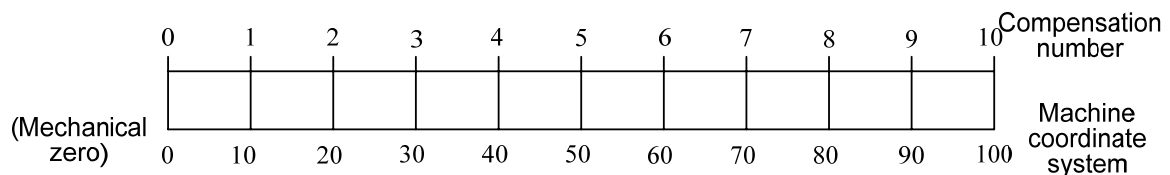

Fig. 4-7-2
B. The zero return direction is the negative one. The least value of the coordinate system in this area is 0, which can be calculated out the compensation number 0 of the reference position; refer to the Fig. 4-7-2: